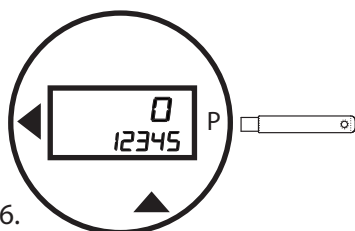

Figure 26.
- Pass the wand over **P**. This will end configuration mode and save your changes (Figure 26).